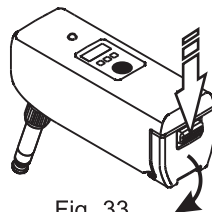

Fig. 33
(A) Gently push down on the battery compartment latch and swing the battery compartment over open, Fig. 33.